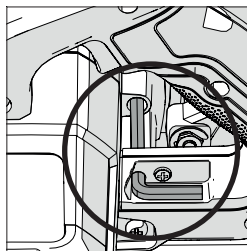

Fig. 1
- Locate the supplied Blade Change Hex Key which is housed in the onboard storage facility (**Fig. 1**)